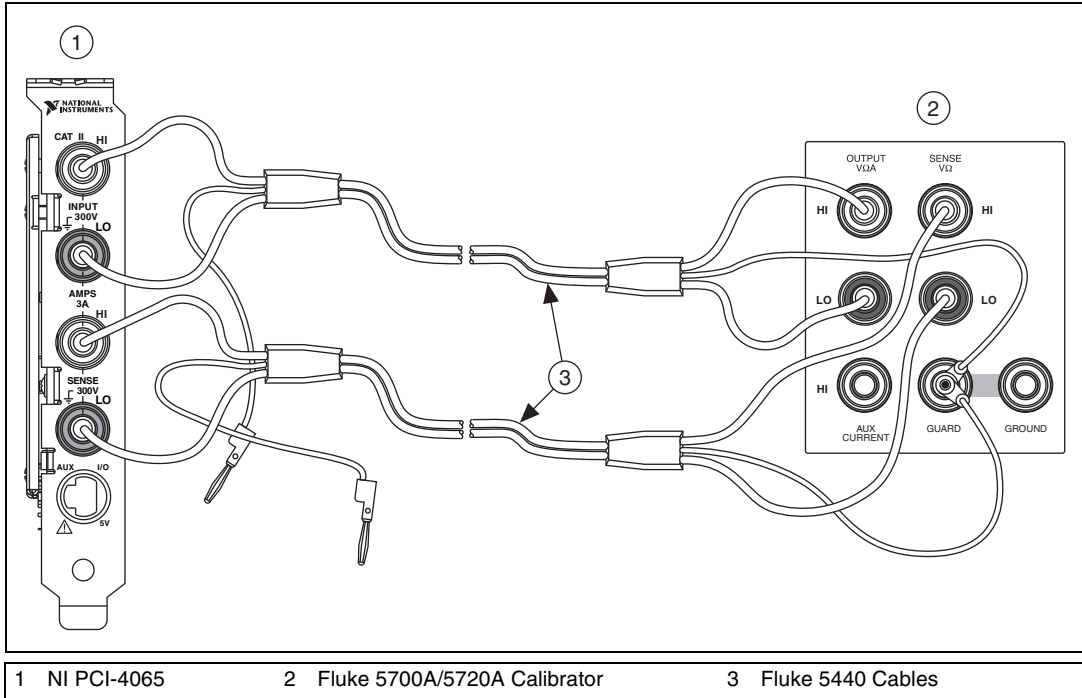

Figure 3. NI PXI/PCI/PCIe-4065 Cable Connections for 4-Wire Resistance
2. Connect the NI 4065 and the Fluke 5700A/5720A calibrator using the Fluke 5440 cables, as shown in Figure 3 for the NI PXI/PCI/PCIe-4065 and Figure 4 for the NI USB-4065. Table 7 lists the cable connections.